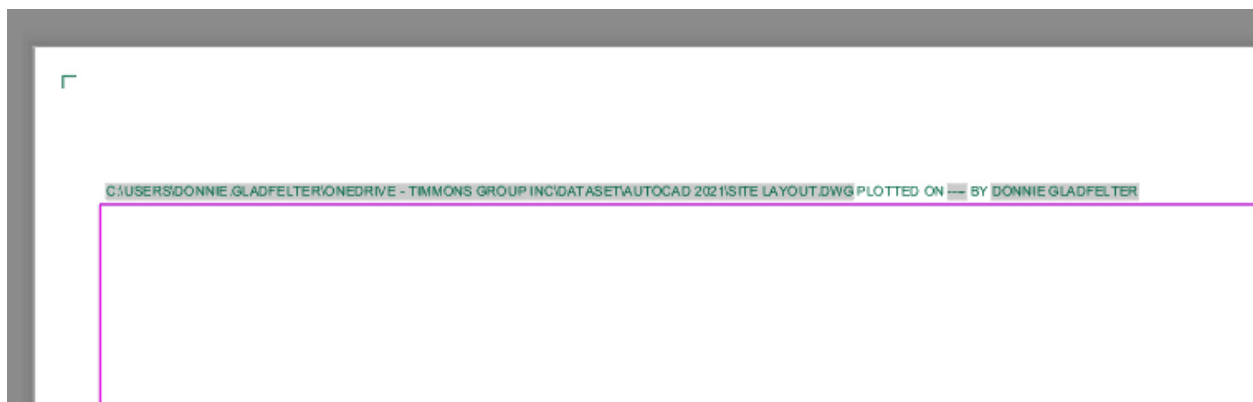

Figure 26: Finished Plot Stamp created with Fields.
3. Click Close Text Editor button from the contextual Text Editor Ribbon tab to finish editing your Multiline Text entity and finish composing your plot stamp shown in Figure 26.